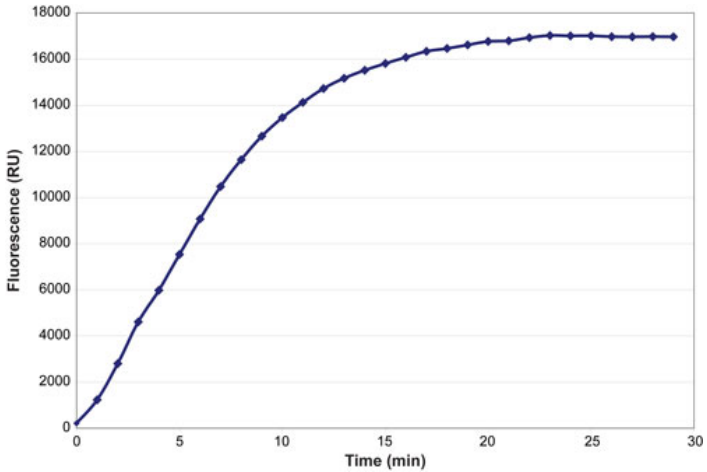

Figure 3: Human lysine specific histone Methyltransferase SET7/9 assayed with 20 μ M TAF-10 as the acceptor substrate.
- Obtain the slope (rate) of the linear portion of the curve. See figure 3 for an example using humane lysine specific histone Methyltransferase, SET7/9).